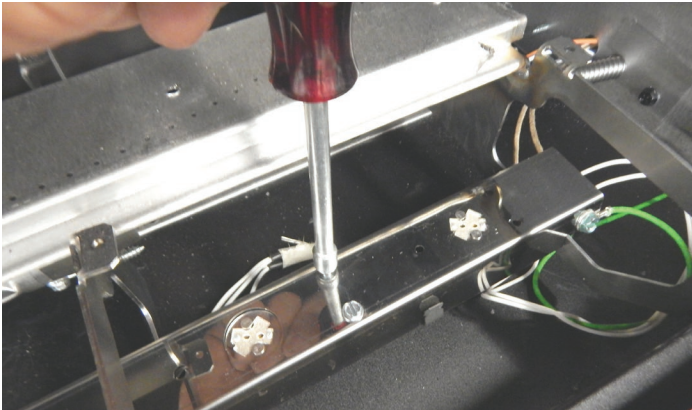

Figure 9
- Align the Center Light bracket onto the two center burner brackets, then place the Left and Right Light bracket ends on top of the Center Light bracket ends. There are 1/8" X 1/8" notches on the bottom edges of the Light brackets that will nest onto the burner brackets. When installing in the DVLL36BP fireplace, the Left and Right Light brackets will overlap the Center Light bracket approximately 6". When installing in the DVLL48BP fireplace, the Left and Right Light brackets will overlap the Center Light bracket about 1". Secure the Left and Right Light brackets to the Center Light bracket with (4) #8 X 1/4" Screws as shown in **Figure 9.**